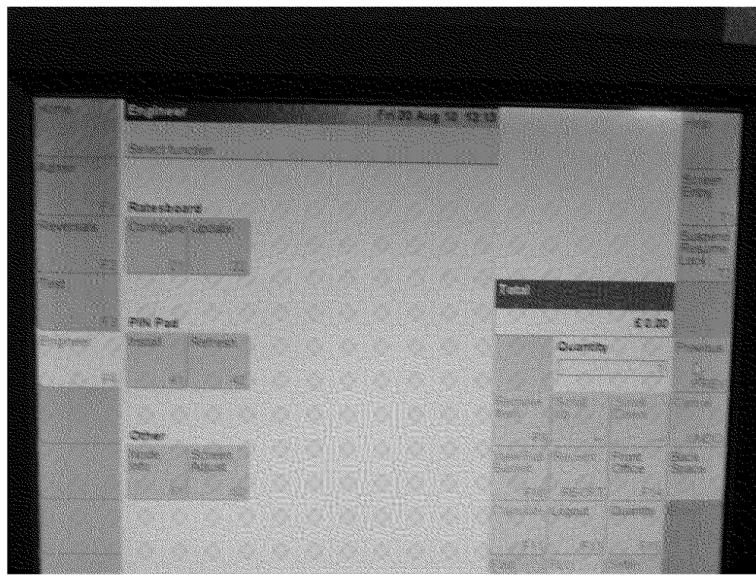
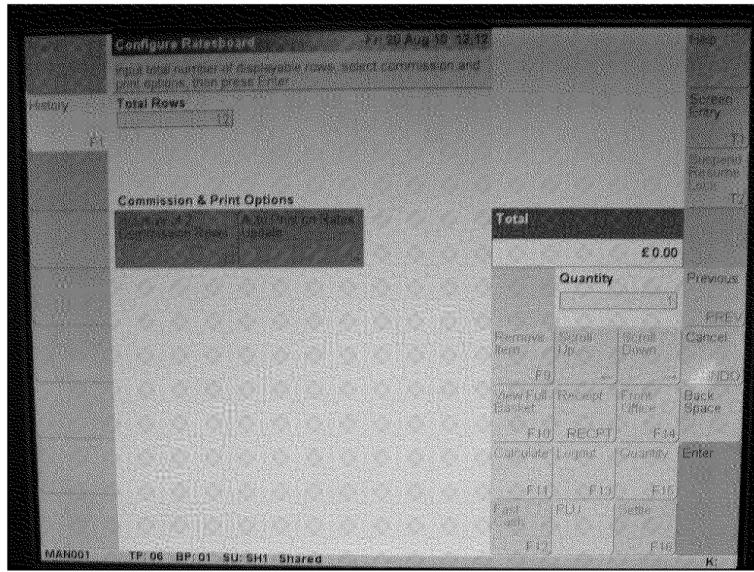
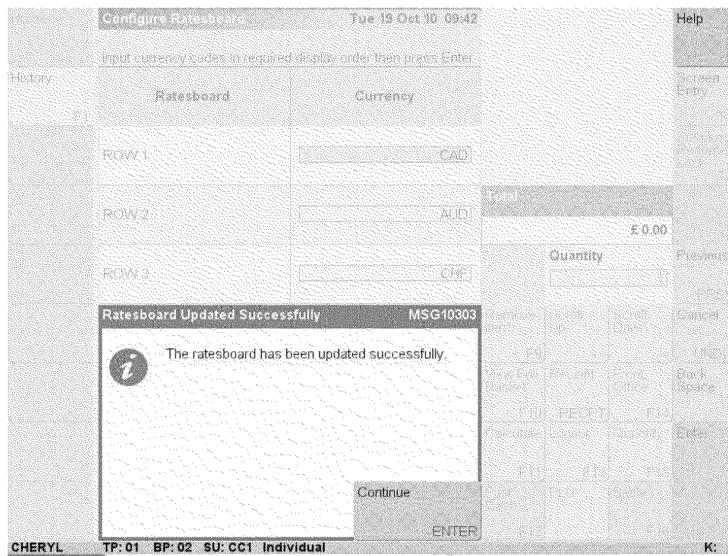

Figure 11
Figure 12
Figure 16
The Branch Manager should under Ratesboard touch the “Configure” icon or type 21 in order to start the process of reconfiguring the Rate Board confirming that the Rate Board is correctly configured. The Branch Manager will first be asked to input the number of rows on the Rate Board connected to the Counter Position (Figure 12)
- 2) The Branch Manager should enter the number of rows to correspond with the number of rows on the Rate Board attached to the Horizon Counter Position. If the displayed number of rows is incorrect, remove this entry using the ‘back space’ button on the keyboard or by touching the icon on the screen, then use the number pad to enter the correct number of rows. The Branch Manager will then be asked whether the last 2 rows should be reserved as commission lines (Figure 12).
- 3) The Branch Manager should decide whether the last two rows should be commission lines. If required he should touch the icon or type 32 on the keyboard. The Branch Manager will then be asked whether to Auto Print on Rates Update. (See Figure 12). If this icon is touched or keyboard 34 the A4 printer will print a new bureau rates report each time the rates are updated. When all the selections have been made press Enter on the screen or keyboard.
7) The Branch Manager should touch the ‘Update’ button keyboard 22 (See figure 12). The message “MSG10303 the ratesboard has been updated successfully” will appear (Figure 16). Press Print keyboard 84 to preview or print the new rates. Press Close to return back to the engineer screen (See figure 11 above).